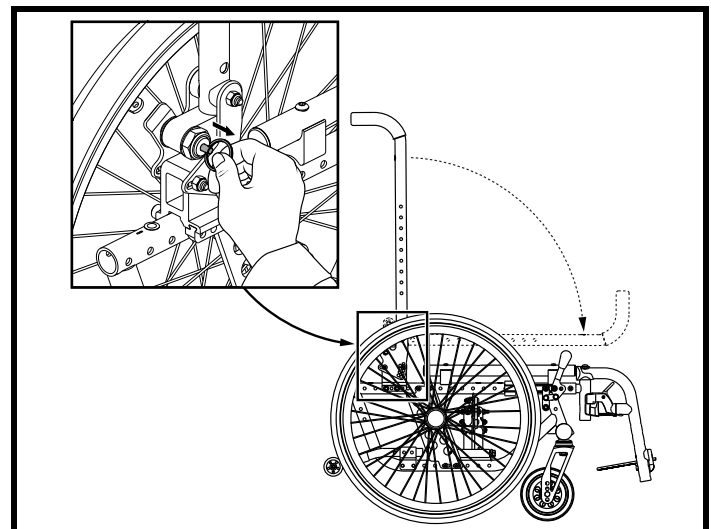

Figure 11. Fold-forward Back Canes
3. Push the release lever at the rear of the seat base to fold down the seatback. See figure 11.